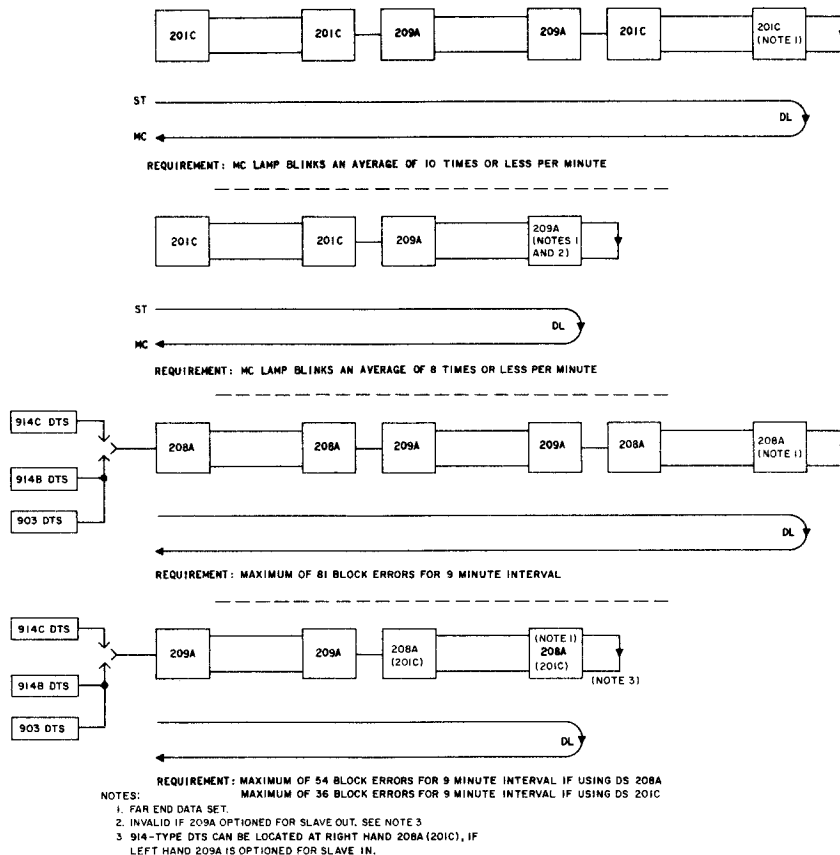

Fig. 2—Installation Test Requirements
- (1) Verify that the DL switch is depressed on the distant-end data set.
- (2) Depress the ST switch on DS 201C-type. Check that the MC lamp is off and all other lamps are lighted.
- (3) Observe the MC lamp for five 1-minute test periods.
**Requirement:** Error requirements will vary depending on system configuration. Refer to Fig. 2.
- (4) If the system does not pass the test, refer to Section 592-032-300.
- (5) To return the data set to normal operation, release the ST switch.
- (6) Have the distant-end data set released from the digital loop-back mode.
- (7) Notify the control STC of the test results.
(10) Reset the counter to zero by pressing the RESET switch. Perform a 9-minute error run and record the total number of errors.
(11) If the system does not meet requirements, refer to Section 592-032-300.